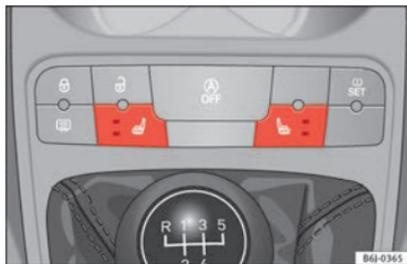

Fig. 134 Front seat heating switch.
- Press the corresponding switch » **Fig. 134** to switch on the seat heating.
- Press once to connect the heating at maximum force. The two LEDs illuminate » **Fig. 134**. After 15 minutes of high